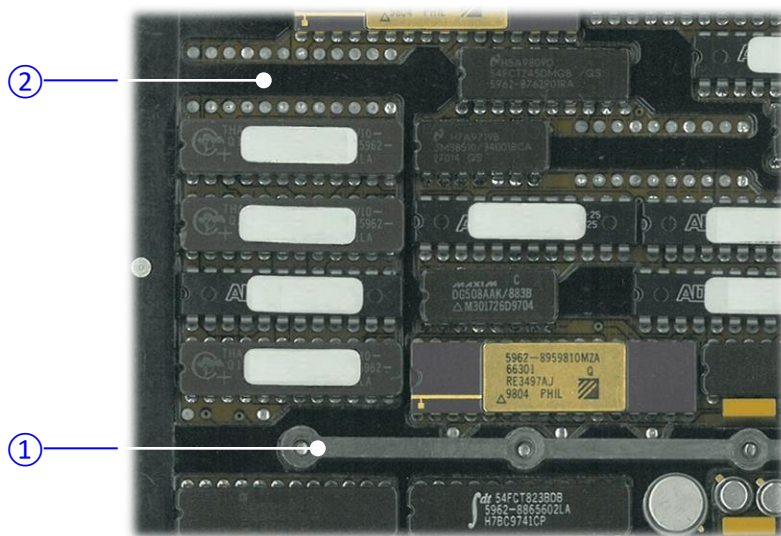

Figure 3.17 Mechanical structure that doubles up as heat sink.
As shown in Figure 3.17 above, a metal bar ① can be attached using screws along the center region of the PCB to provide added mechanical support, or a layer of machined plate ② can be permanently affixed by rivets to the top of the PCB that runs along the middle section under each IC to act as heat sink for heat dissipation purpose. In fact, this heat sink layer can perform both functions adequately if the PCB size is small and does not require the use of an extra support bar.